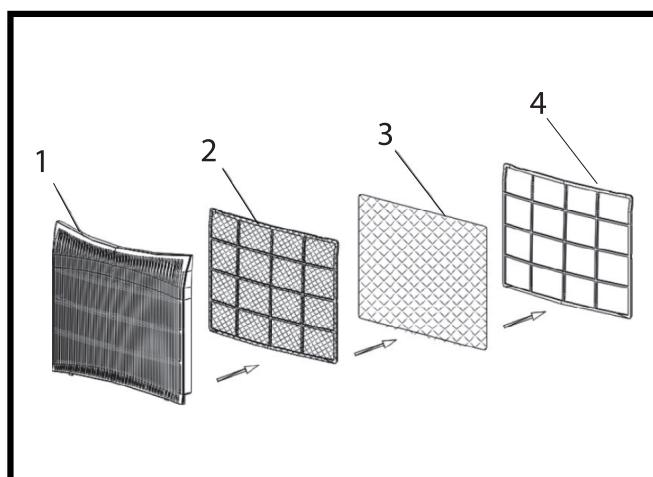

Fig. 4
- Assembly of the filters FIG. 4